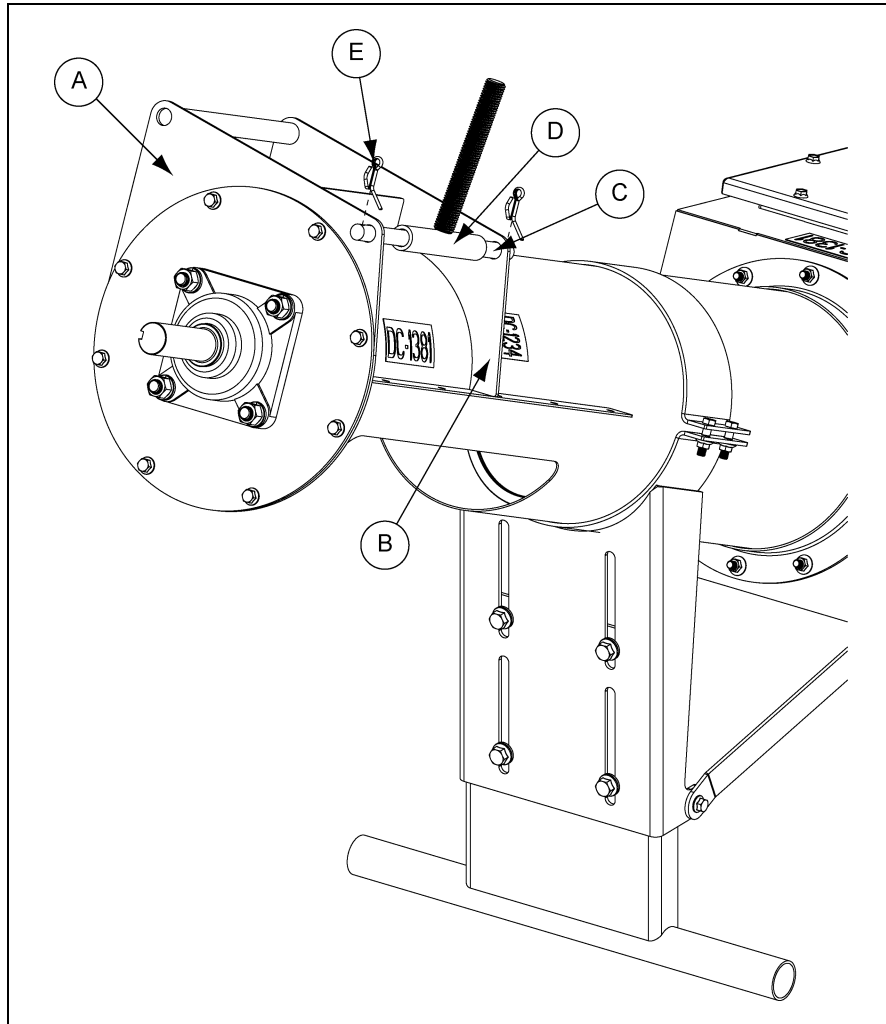

Figure 4D
1. Place motor mount adjustment rod (D) between the head plate (A) and back plate (B) on the discharge tube.
2. Insert pivot rod (C) through the tube plates and motor mount adjustment rod (D). Secure in place with two (2) 3/16" x 2" cotter pins (E). (See Figure 4D.)